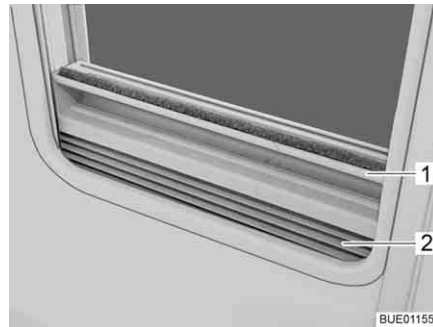

Fig. 61 Roman shade
- Grip the Roman shade (Fig. 61,2) in the middle of the holding bar (Fig. 61,1), pull it upwards and then release it at the desired height. The Roman shade will stay at this height.